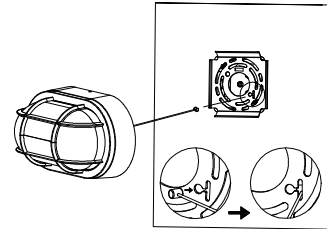

Fig 3
3. One end of the safety rope is fixed to the mounting plate. (Fig 3)